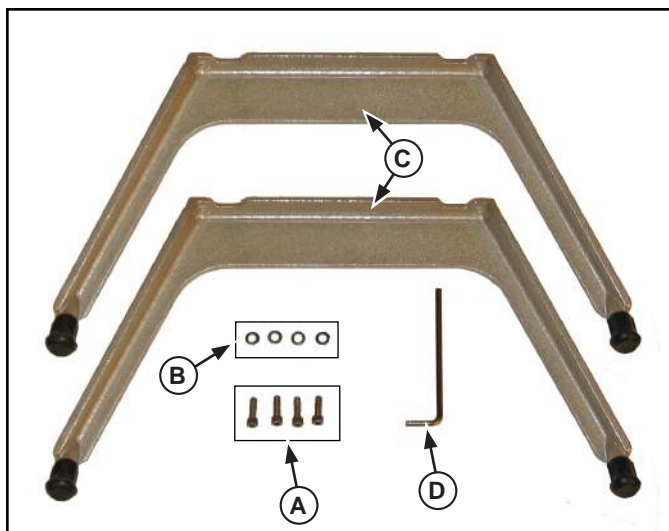

Figure 3. Legs, Hardware and Tool for the Lettuce King I.
1. Use the screws (A) and washers (B) to install legs (C) tightening with wrench (D). See Figure 3.